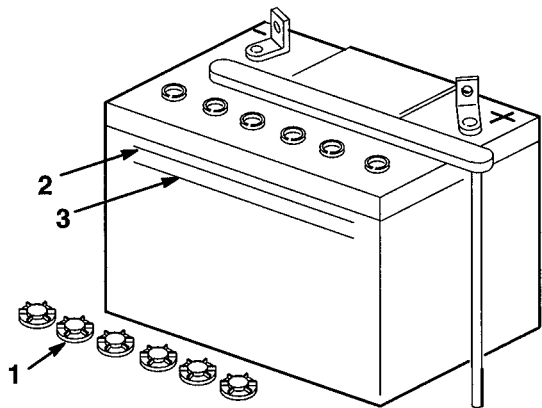

Figure 19
2. Look at the side of the battery. The electrolyte must be up to the “UPPER” line (Fig. 19). Do not allow the electrolyte to get below the “LOWER” line (Fig. 19).
2. Unscrew the filler caps (Fig. 19).
3. Slowly pour distilled water into each battery cell until the level is up to the “UPPER” line (Fig. 19) on the battery case.